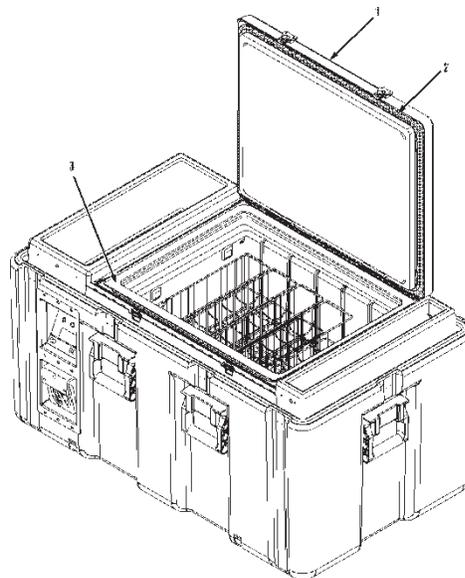

Figure 63. Inspecting Lid Gasket and Mating Surface
When the lid gaskets (item 2, Figure 63) are in good working order, there should be little or no accumulated moisture inside the AX56L, unless the lid (item 1) is opened and closed frequently.